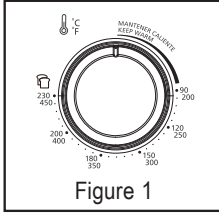

Figure 1
- 2. Temperature Control Knob** – Adjust the dial thermostat to the desired temperature. (See Figure 1)